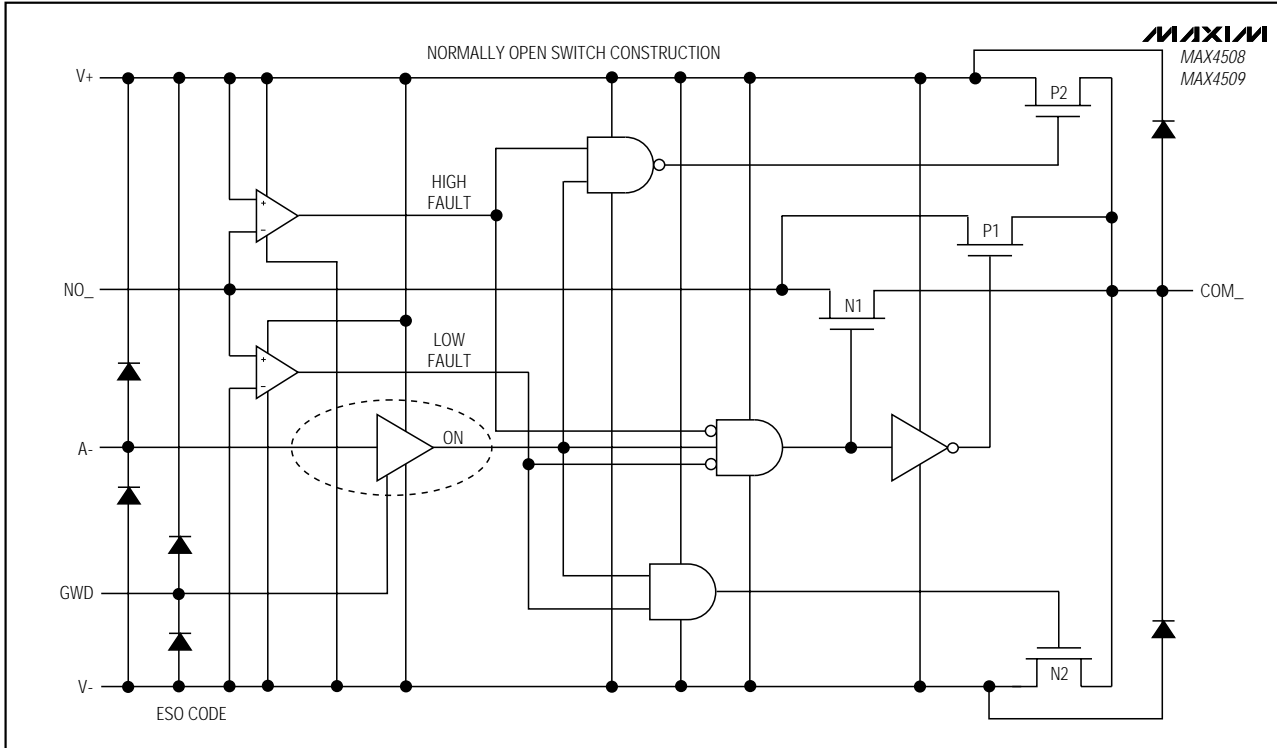

Figure 1. Functional Diagram
Figure 1 shows the internal construction, with the analog signal paths shown in bold. A single normally open (NO) switch is shown. The analog switch is formed by the parallel combination of N-channel FET N1 and P-channel FET P1 which are driven on and off simultane-
Two comparators continuously compare the voltage on the NO_ pin with V+ and V- supply voltages. When the signal on NO_ is between V+ and V-, the multiplexer behaves normally, with FETs N1 and P1 turning on and off in response to A_ signals (Figure 1). The parallel combination of N1 and P1 forms a low-value resistor between NO_ and COM_ so that signals pass equally well in either direction.
When the signal on NO_ exceeds V+ by about 150mV, the positive fault comparator output goes high, turning off FETs N1 and P1 (Figure 1). This makes the NO_ pin high impedance, regardless of the switch state. If the switch state is "off," all FETs turn off, and both NO_ and COM_ are high impedance. If the switch state is "on," FET P2 turns on, clamping COM_ to V+.
When the signal on NO_ goes about 150mV below V-, the negative fault comparator output goes high, turning off FETs N1 and P1 (Figure 1). This makes the NO_ pin high impedance, regardless of the switch state. If the switch state is "off," all FETs turn off, and both NO_ and COM_ are high impedance. If the switch state is "on," FET N2 turns on, clamping COM_ to V-.
FETs N2 and P2 can source about ± 10 mA from V+ or V- to the COM_ pin in the fault condition (Figure 1). Ensure that if the COM_ pin is connected to a low-impedance load, the absolute maximum current rating of 30mA is never exceeded, either in normal or fault conditions.